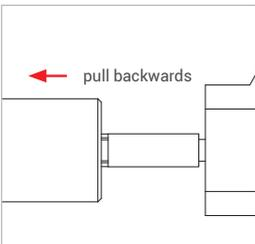

Figure 4
- ▶ Pull lightly on the test piece (red arrow *Figure 4*) in the direction opposite that of the connection to make sure that the connector is firmly in place.